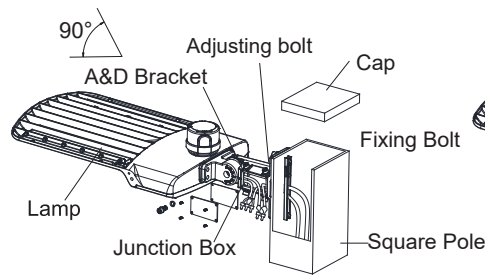

Figure 16
Step 2: Fix ADM bracket to square pole with bolt, open the cover of ADM bracket junction box, pull the wire into bracket junction box, connect the wire properly and cover the junction box. (Figure 16)
Notice: Adjustable angle is 0-90°.(Figure 16)